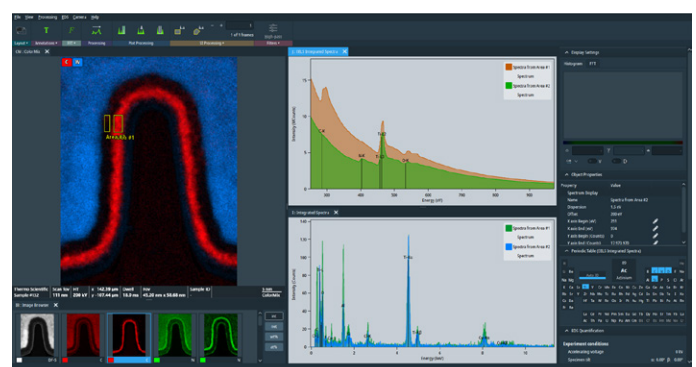

Figure 5: Graphical user interface layout of Velox Software in STEM + EELS applications.
In addition to EDS, Velox Software offers extensive support for electron energy loss spectroscopy. The software facilitates easy and accurate data acquisition and analysis on the Thermo Scientific™ Iliad™ (S)TEM's spectrometer and energy filter, so you can perform detailed EELS analysis with confidence, as shown in Figure 5. By acquiring EDS and EELS signals simultaneously at a high rate, Velox Software can help you minimize sample damage and work more efficiently.